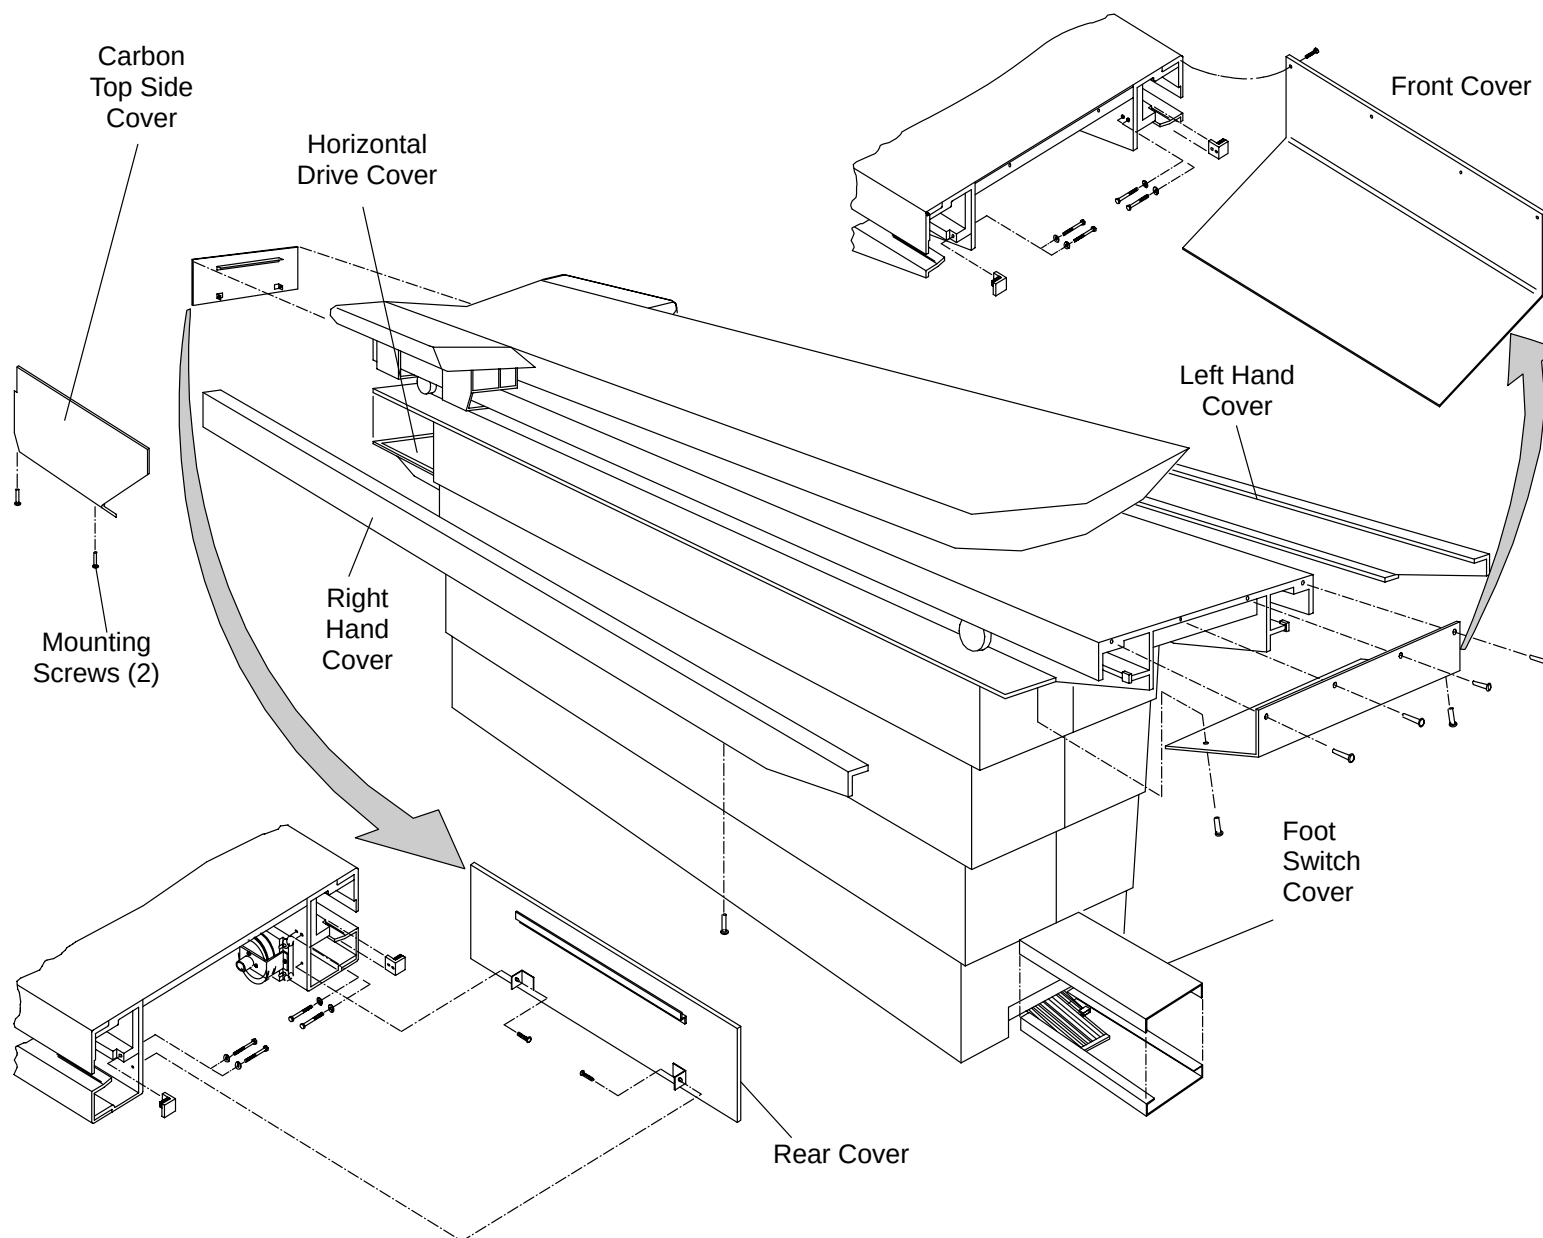

FIGURE 188 PATIENT SUPPORT COVERS
17. Remove the two Phillips Head Screws from the underside of the front Cover. See Figure 188.
20. Remove the two Phillips Head Screws from underneath the Sub-frame that secure the rear Cover. See Figure 188.
23. Remove the four Pan Head Screws, Lock Washers, and Flat Washers from underneath the Table at the rear end, to gain access to the Horizontal Drive. Refer to Figure 188.
26. Remove the two Mounting Screws that attach the Carbon Top Side Cover to the J–Bracket. Refer to Figure 188.
29. Remove the rear–most front cover Screw that secures the front Cover and Side Rail to the Sub–frame. Refer to Figure 188.
32. Remove the Flat Head Screws from the underside of the Rail Cover. If both Rail Covers are removed at the same time, tag them left and right. See Figure 188.